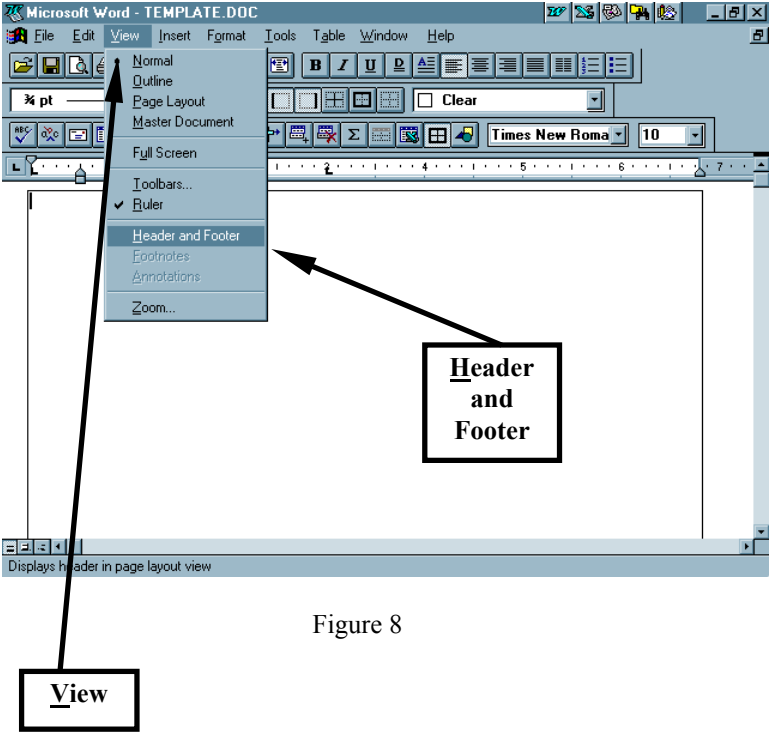

Figure 8
- 18. Next select **View**Hheader and Footer from the menu as in Figure 8 below.